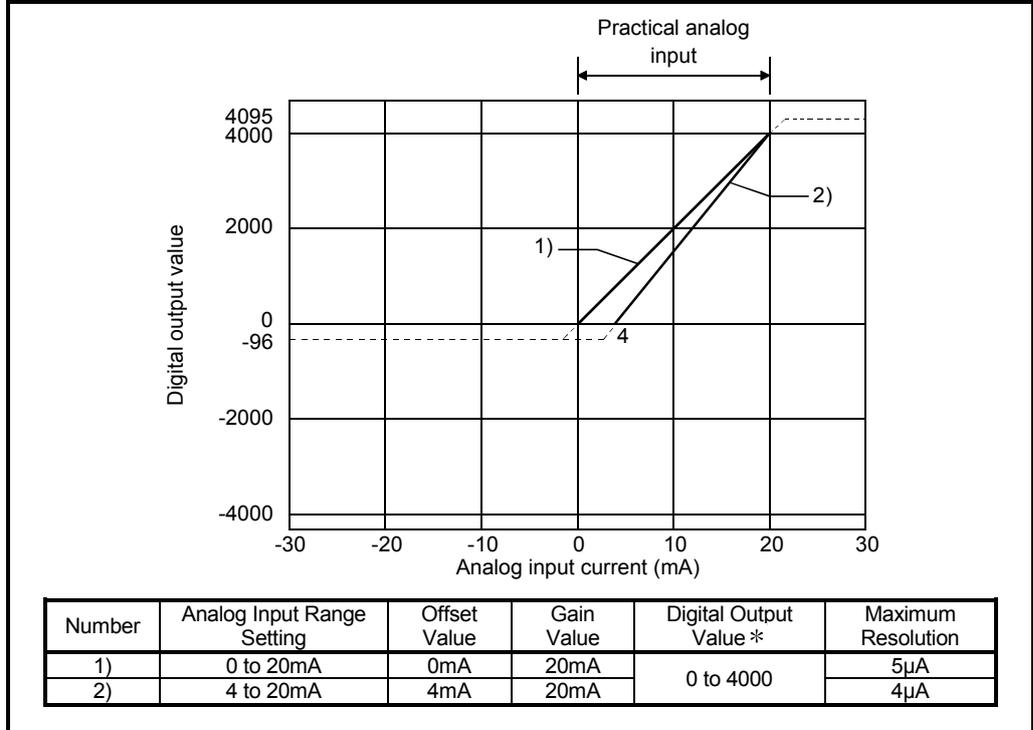

Fig. 3.2 Current Input Characteristics
| (3) Within the analog input and digital output scopes of each input range, the maximum resolution and accuracy are within the performance specification range. Outside those scopes, however, they may not fall within the performance specification range. (Avoid using the dotted line part in Fig. 3.2.) |